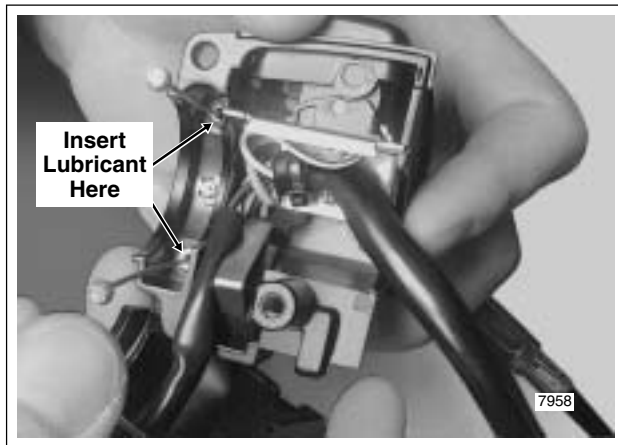

Figure 1-20. Lubricate Throttle/Idle Cables
7. Obtain tube of Lubit-8 Tufoil Chain and Cable Lube (HD Part No. 94968-85TV- 1/4 fl. oz.). Insert pin of tube between throttle cable and cable housing inside lower switch housing. Squeeze tube to squirt a quantity of lubricant into cable housing moving pin around cable OD. See Figure 1-20.